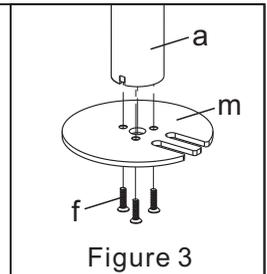

Figure 3
1. Install the Grommet Base Plate(m) to the Pole(a) using 3pcs M5x16 Bolts(f), see Figure 3.